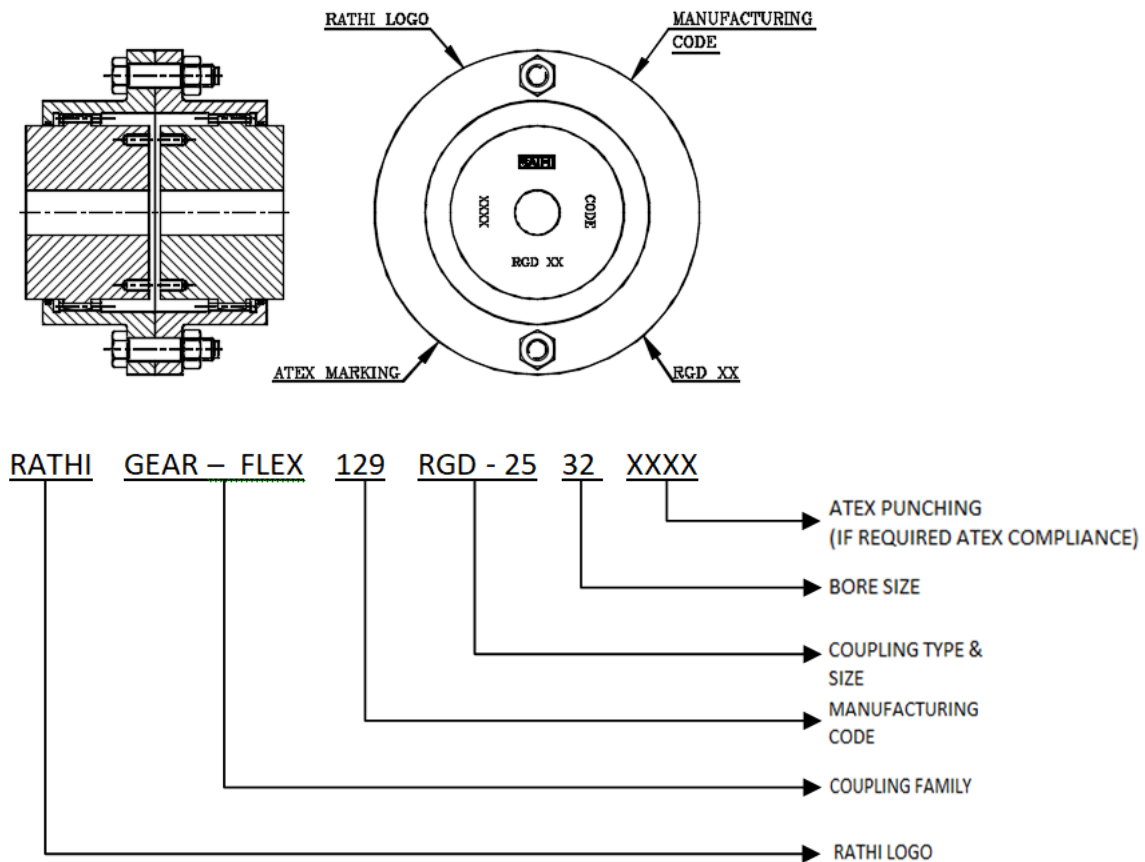

Fig.7. Marking example
- The ATEX marking for RGD coupling will be given on outer surface or front side (Fig. 7).